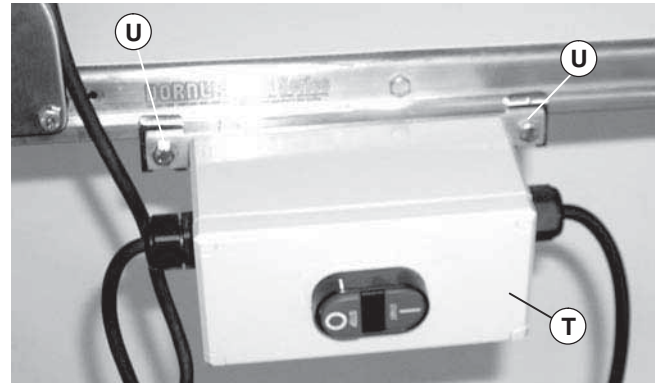

Figure 21
- Attach motor starter (Figure 21, item T) with clips to conveyor. Tighten screws (U) to 92 in-lb (10.4 Nm).